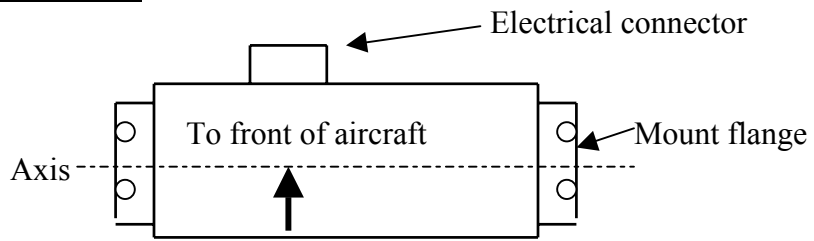

Figure 1.
- b. The EDC-D10A must be installed with the electrical connector facing forward (i.e. in the direction of flight) with the mounting flanges on the bottom. (See Figure 1)